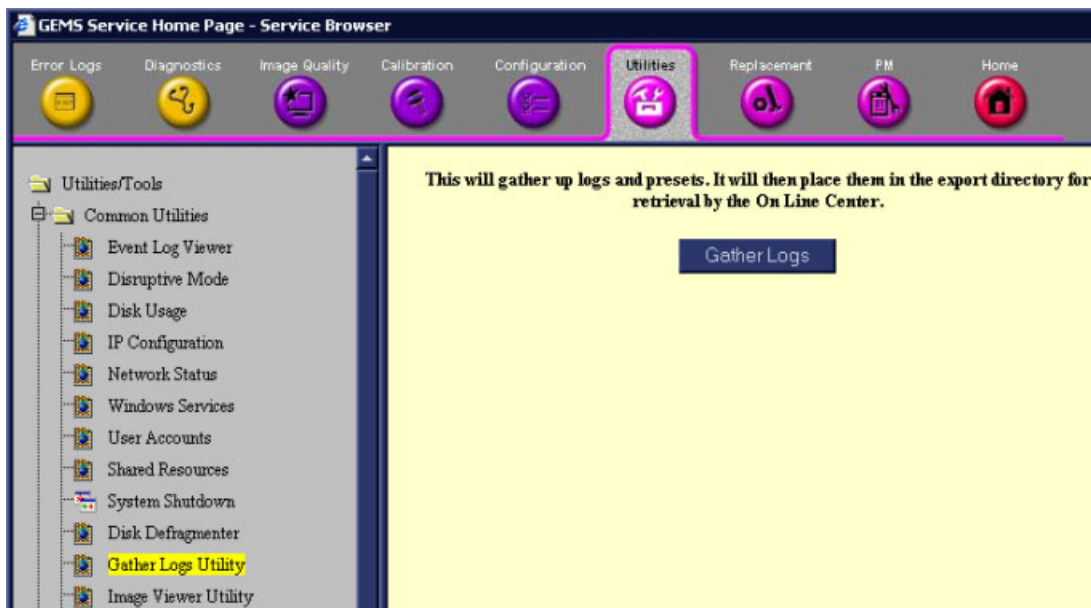

Figure 7-132 Gather Logs Utility
- **Gather Logs Utility** - accumulates the logs available in the system in D:\Export from where the OLC can download them - see Figure 7-132.
- **Image Viewer Utility** - enables the user to save images for further viewing by the OLC - see Figure 7-132.